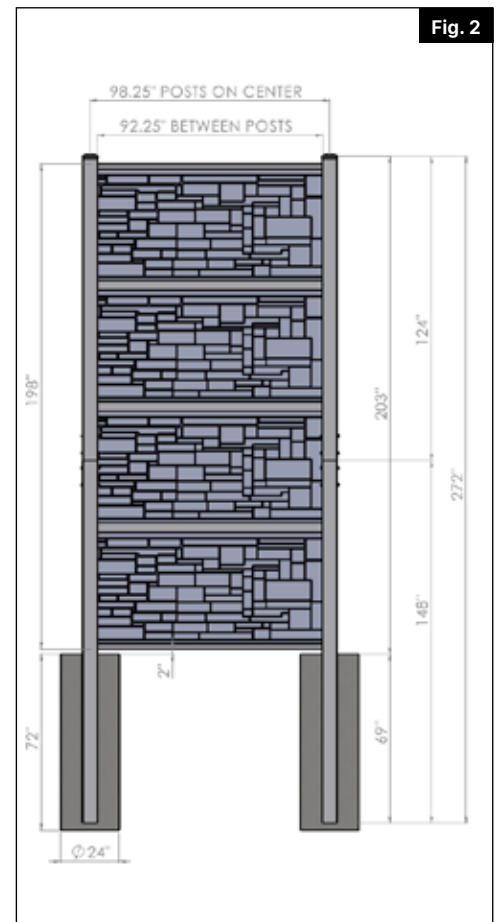

Fig. 2
- Insert the splice into the 148" I- beam post and aligning the bolt holes and attach with supplied hardware (5/8"- 7" long bolts, (2) flat washers, spring washer and nut (Fig. 2).
- e. Install next level bracket leaving ½" space between top of the infill panel and bottom of the bracket. Ensure H rail is level and attach rail to brackets (Fig. 2).